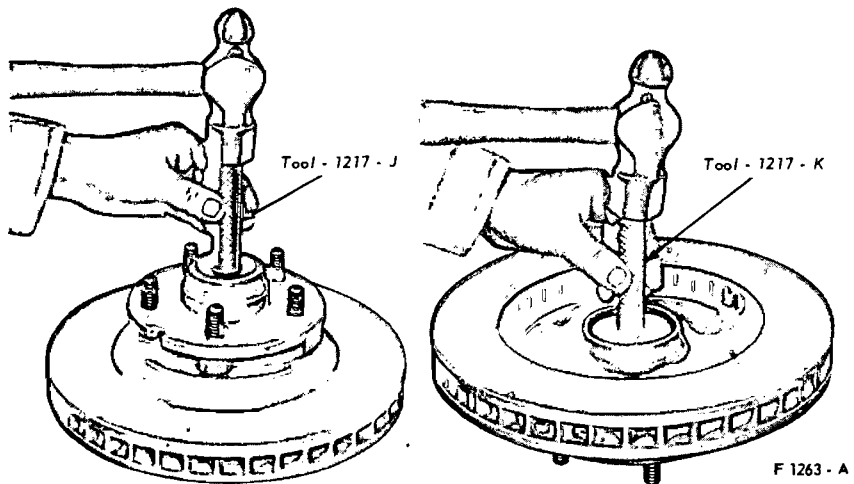

FIG. 5 Installing Front Wheel Bearing Cup—Disc Type
11. If the inner and/or outer bearing cup(s) were removed, install the replacement cup(s) in the hub with the tools shown in Fig. 5. Be sure to seat the cups properly in the hub.